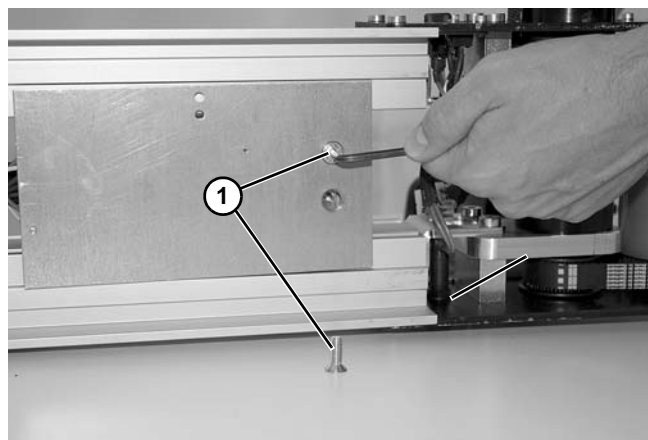

Figure 155
4. Remove flat head screws (**Figure 155, item 1**).